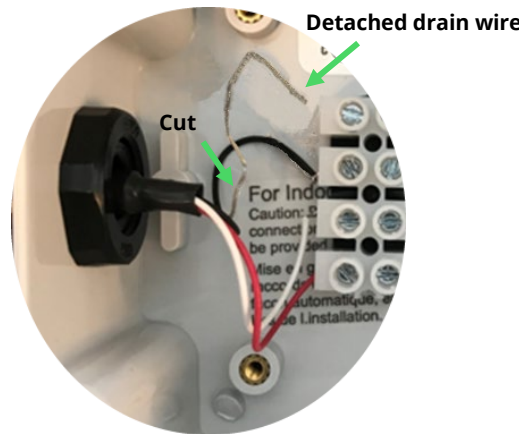

Figure 3
- c) Cut the drain wire close to the terminal point of the sensor cable (see Figure 3);